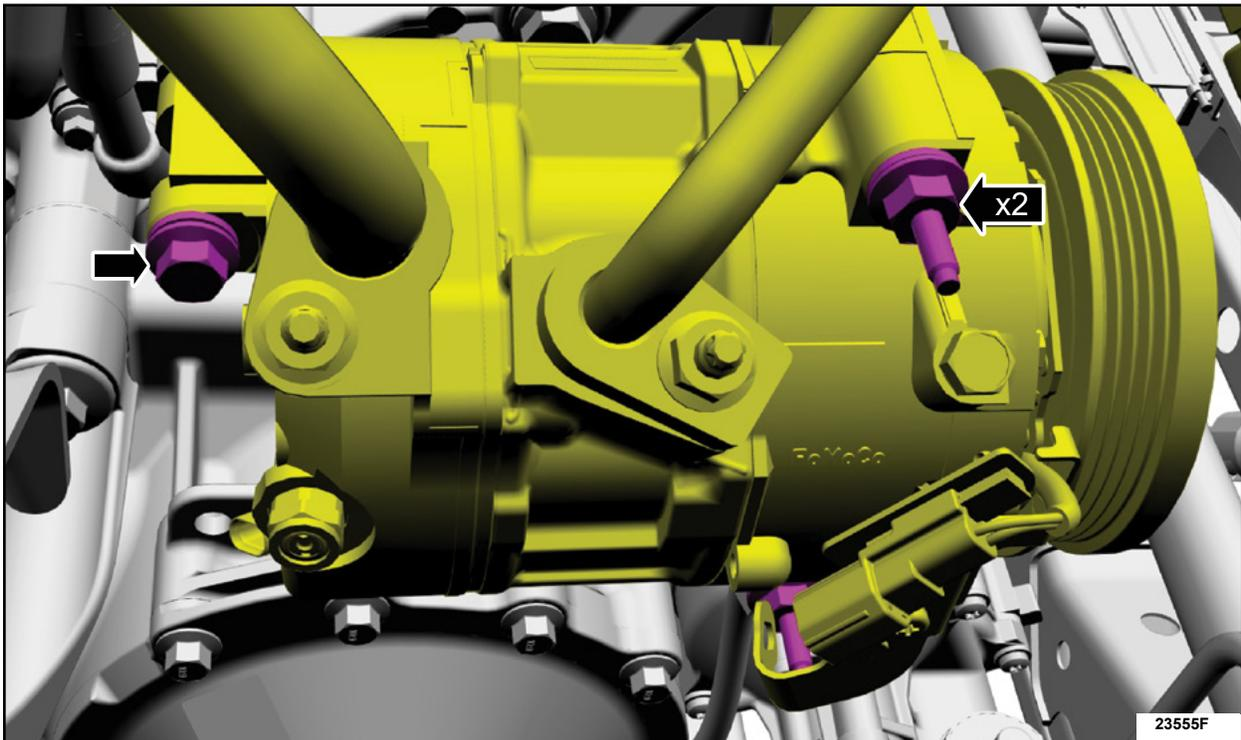

FIGURE 15
16. Install the A/C compressor, then install and tighten the A/C compressor bolt and the studbolts. See Figure 15.